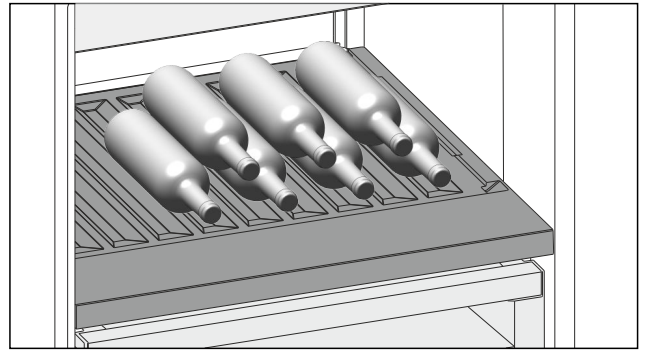

Fig. 124
- ▶ Place bottles in the back row with their bases against the back wall. (see Fig. 124)